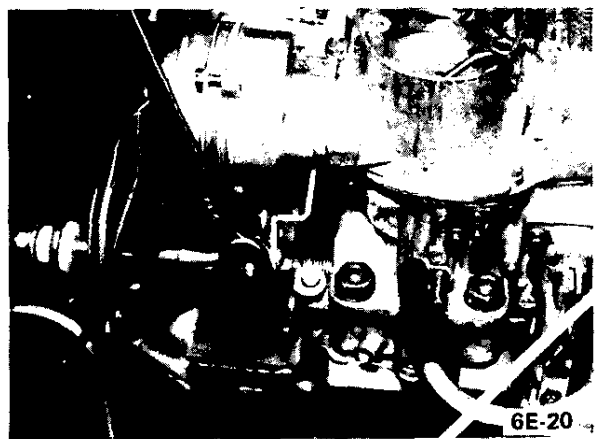

Figure 6E-20 Removing Choke Link
2. Pry off vacuum case connecting lever. See Figure 6E-21.